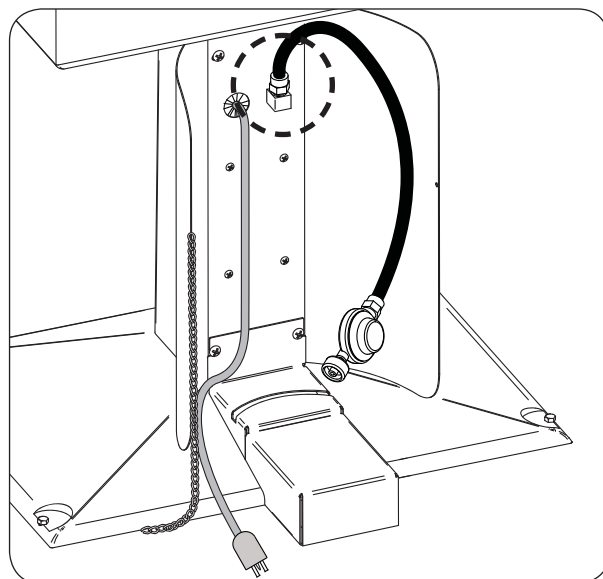

Fig. 2-3 Connect hose (not supplied)
5. Connect the propane hose w/ regulator (**not supplied**) to the exposed adapter on the tank shield. Be sure to tighten completely (Fig. 2-3).